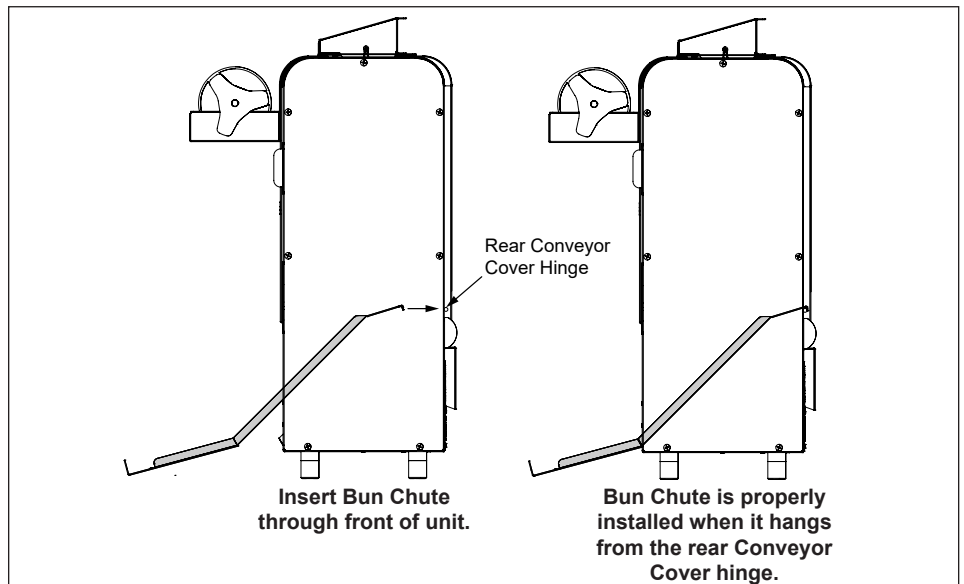

Figure 2. Installing Bun Chute
2. Install the Pan over the front edge of the Bun Feeder and place the Butter Roller in Pan and engage into gear case (Figure 2).
2. Insert the Bun Chute through the front of the unit according to Figure 2.
3. Hang the back of the Bun Chute on the rear Conveyor Cover hinge. When properly installed, the Bun Chute supports will be flush against the front of the unit (Figure 2).
15. Reinstall the Bun Chute through the front of the toaster. Hang the back of the Bun Chute on the rear Conveyor Cover hinge. See Figure 2 on page 5. Reinstall the Bun Feeder.